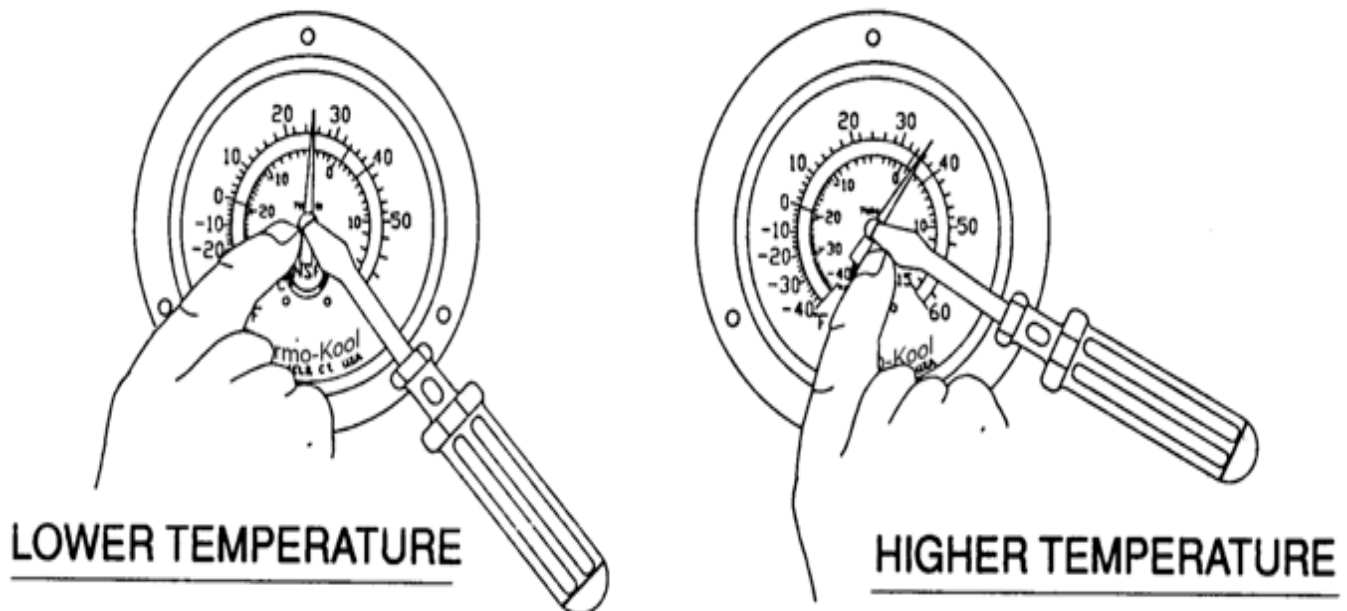

FIGURE 32 - DIAL THERMOMETER CALIBRATION
3. To lower the temperature indicated by the dial thermometer, place an index finger at the left side of the wide end of the needle, but close to the hub. This will prevent the needle from moving during the adjustment. Insert the screwdriver into the hub slot and slowly turn the screwdriver clockwise. Adjust the needle to the temperature read from the other thermometer (Refer to Figure 32).
4. To raise the temperature indicated by the dial thermometer, place an index finger at the right side of the wide end of the needle, but close to the hub. This will prevent the needle from moving during the adjustment. Insert the screwdriver into the hub slot and slowly turn the screwdriver counter clockwise. Adjust the needle to the temperature read from the other thermometer (Refer to Figure 32).